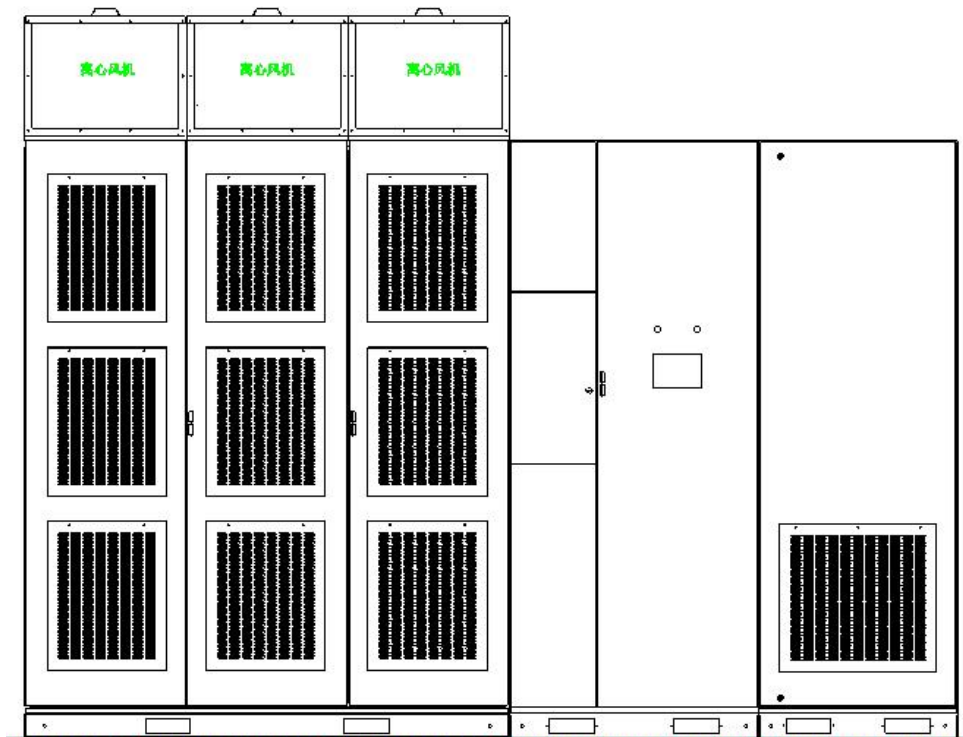
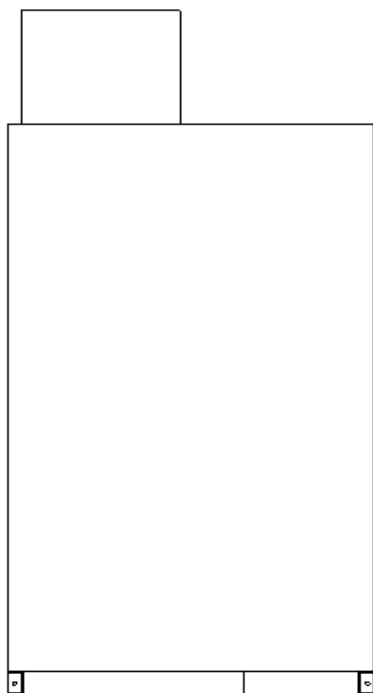

图 7.1 ZBSVG-C4.0/10 正视图 Figure 7.1 The front view of ZBSVG-C4.0/10
图 7.2 ZBSVG-C4.0/10 左视图 Figure 7.2 The left view of ZBSVG-C4.0/10
以 10kV/4Mvar ZBSVG 为例，其外型正视图如图 7.1 所示，外型左视图如图 7.2 所示，10kV/4Mvar ZBSVG 外形尺寸：3800mm(长) \times 2400mm(高不含风机) \times 1400mm(深)。其它产品规格及其外形尺寸可参考表 3.2 和表 3.3 的内容。
7.1 and the left view is shown in Figure 7.2. The sizes of the 10kV/4Mvar ZBSVG is: 3800mm in length, 2400mm in height without fan height, 1400mm in depth. Other products types and sizes are shown in table 3.2 and table 3.3.